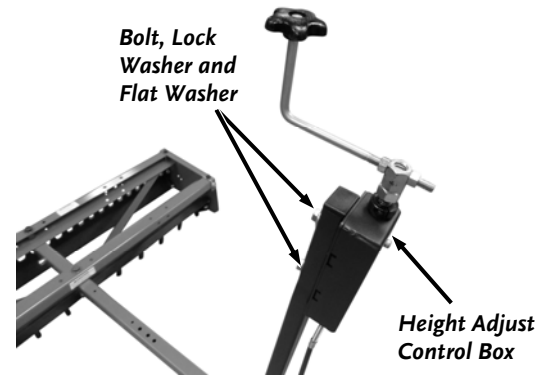

Figure 17
18. Attach the Height Adjust Control Box to the Crank Post with two 3/8-16 x 1-1/2" Bolts, Lock Washers and Flat Washers using a 9/16" Wrench (**Figure 17**).